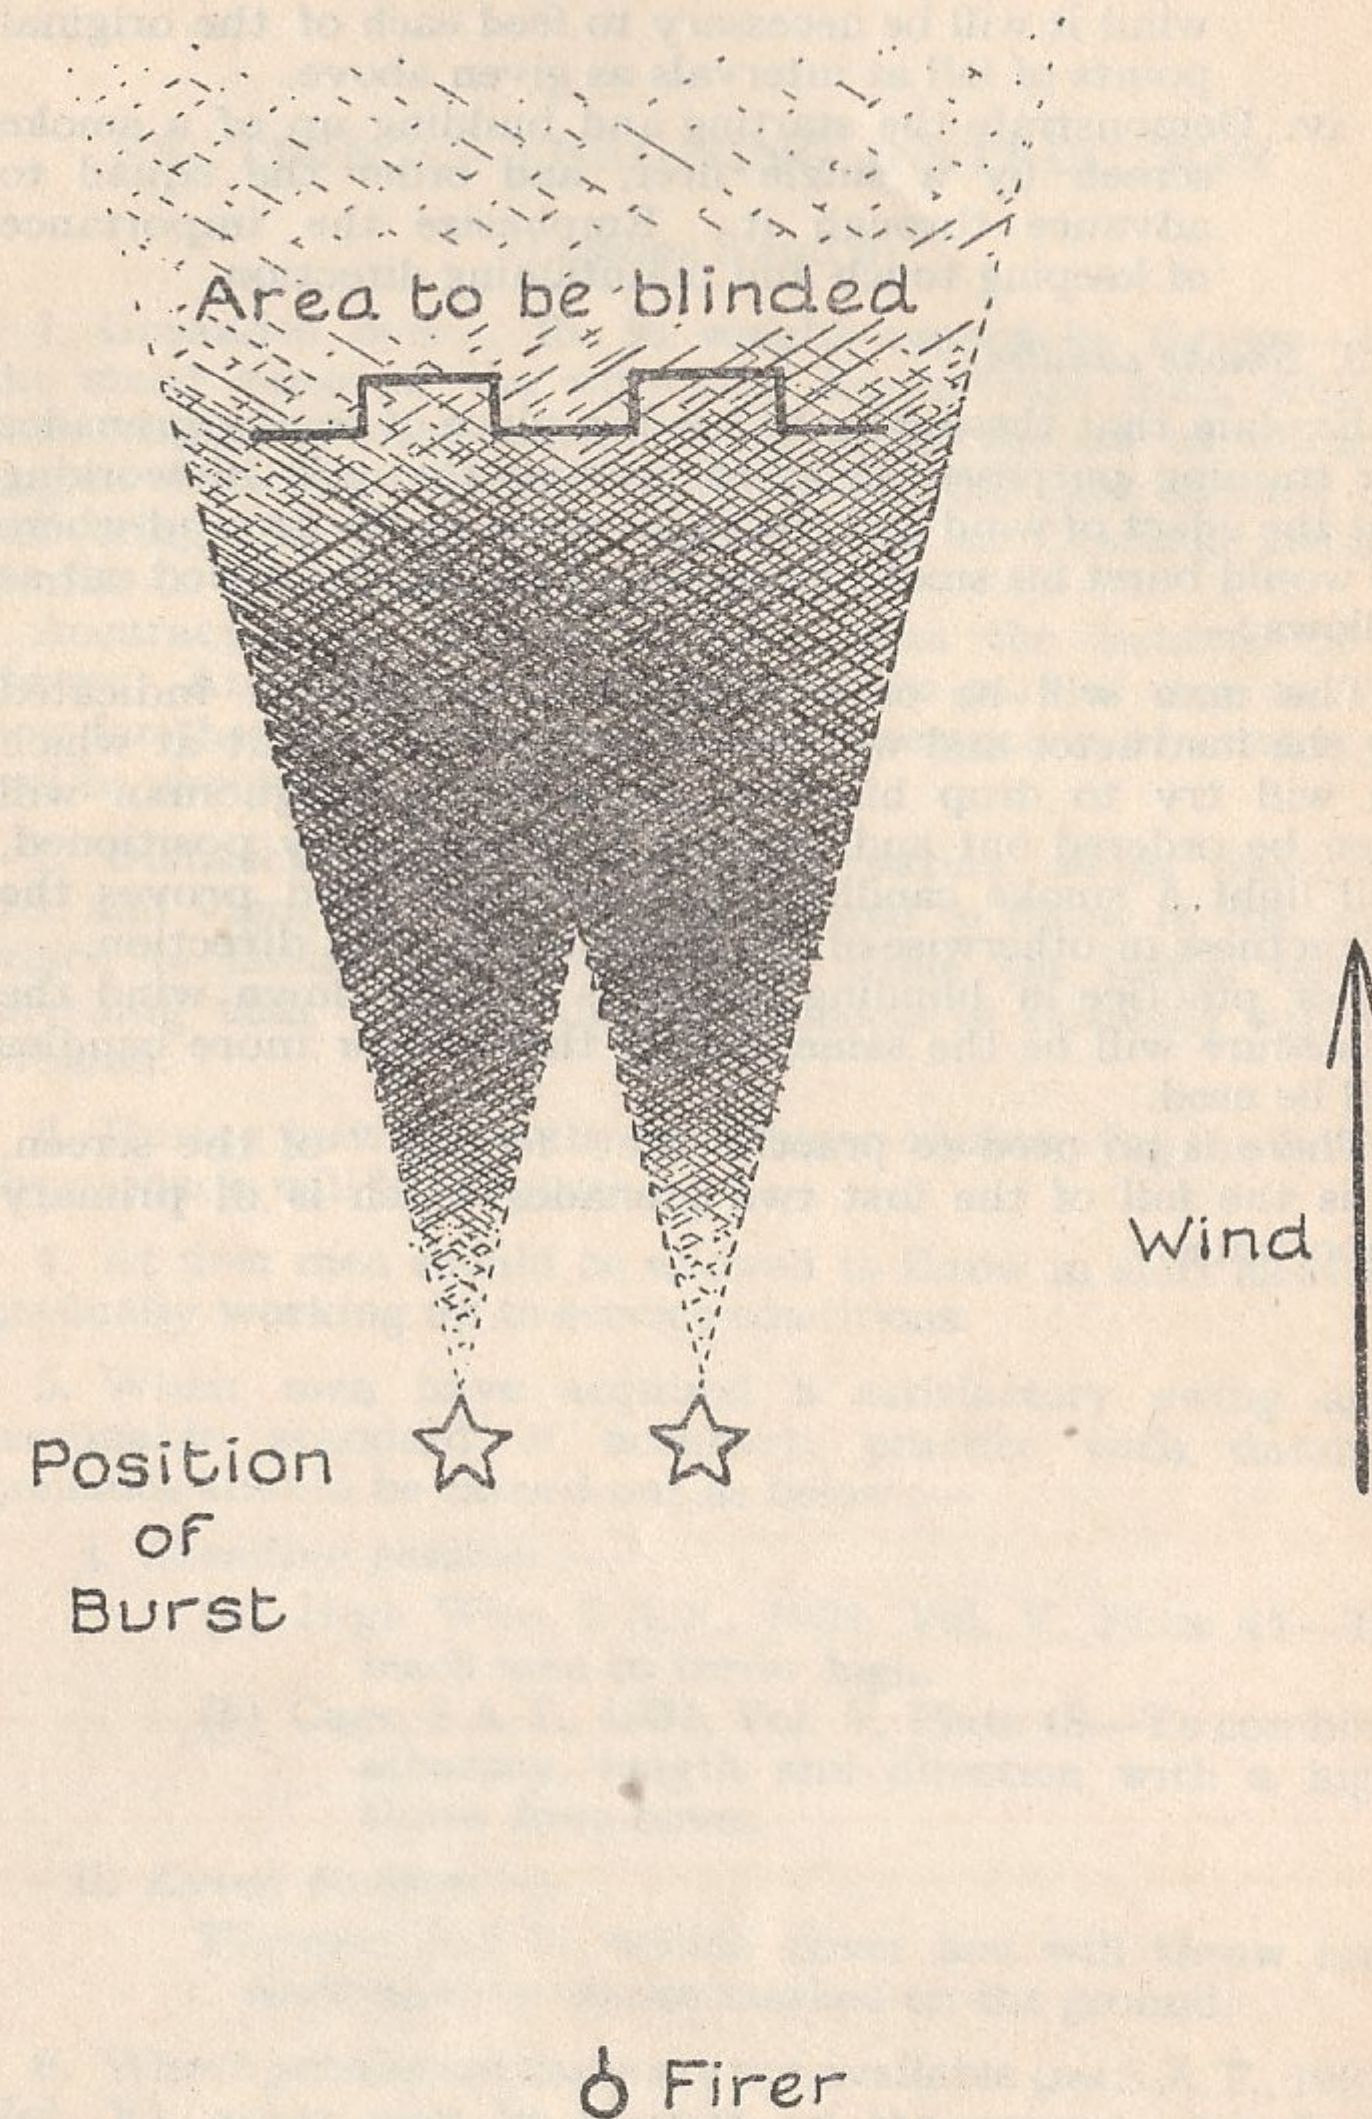

FIG. 10.—Area to be blinded.
- (b) If the wind is blowing towards the point to be blinded, a larger number of grenades will be required. These should be placed in front of the position and about 100 yards short. This allows the smoke to "fish-tail" and so increases the width of the screen. Two grenades about 10 yards apart will effectively blind a small post (see Fig. 10).